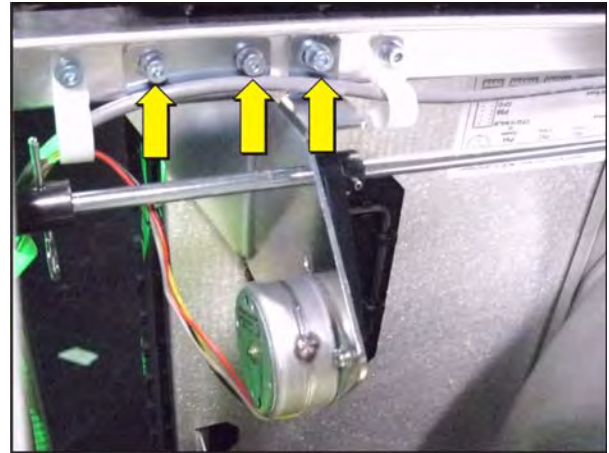

Figure 5-53 Douser Motor
4. Using a 3mm hex key, remove the three screws securing the douser bracket. **(Figure 5-53)**